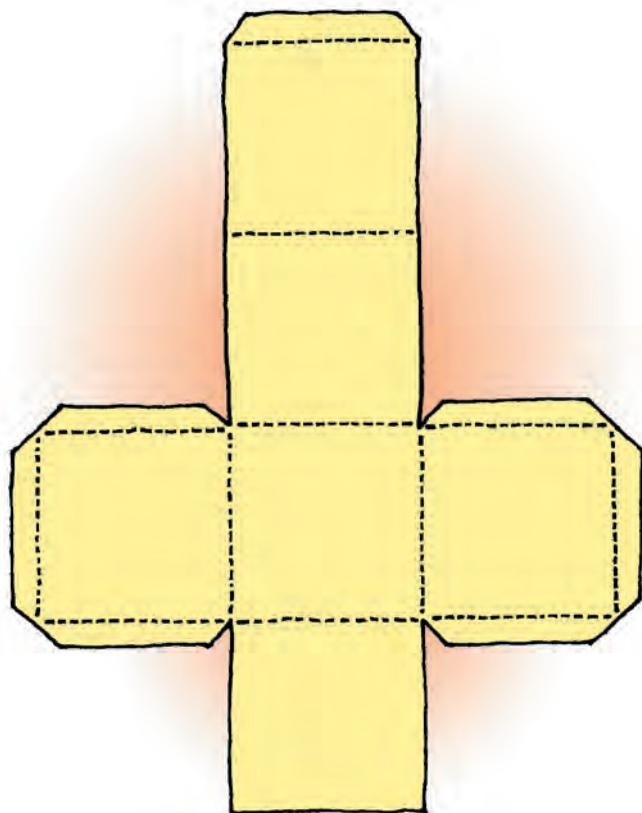

Figure 10.4 Cut out an outline like this one on a piece of lightweight cardboard.
5. Make the cube from lightweight cardboard, card stock, or poster board. The dimensions of the cube should be about $15 \times 15 \times 15$ cm. Figures 10.4 and 10.5 show how to assemble the cube.